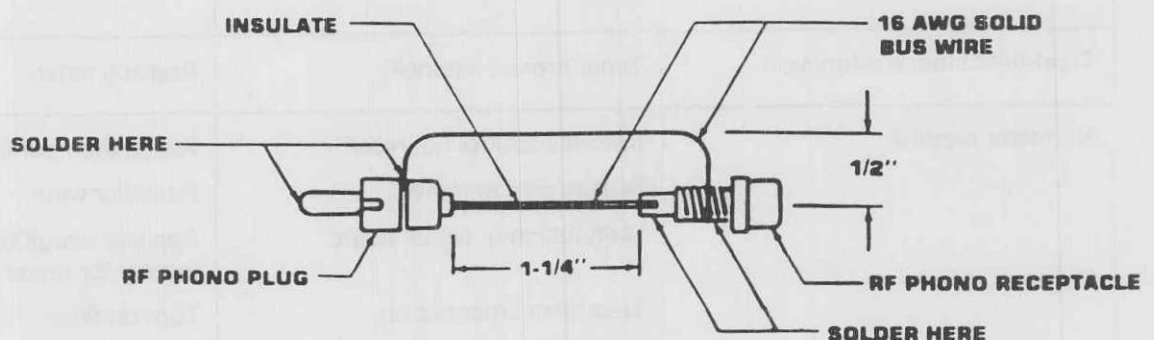

Figure 6
- I. Source of approximately 1/2 gallon of distilled de-oxygenated (< 5 PPM) water at 30 degrees Celsius for use in UPM-30 power meter (item 3 - "Test Setup").
- L. Applicator current transformer adapter (see Figure 6).
- C. Insert an RF current probe adaptor between the ultrasound applicator cable and the RF phono receptacle on the shield box located on the rear panel. The adaptor construction is shown in Figure 6.